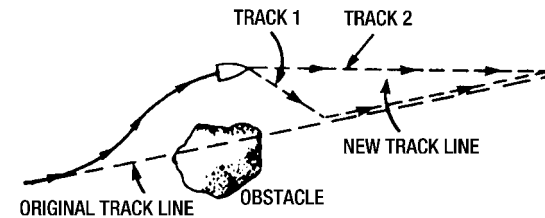

Figure 3: Restarting the course line
- after passing the obstacle, you can steer your vessel back to the original track line by using the cross-track error display, and simply continue to the waypoint (Track 1 in Figure 3)
- after passing the obstacle, if you don't need to return to your original track line, you can go directly to the next waypoint by using the *6000i*'s restart function (Track 2 in Figure 3)